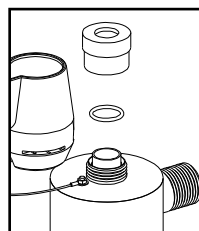
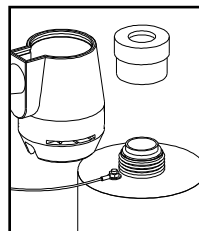

FIGURE 3C
FIGURE 3D
5. Clean the sleeve as outlined above, or replace with a new sleeve. Reinstall the quartz sleeve in the reverse order. The Cobalt reactor is designed for easy installation of the quartz sleeve by incorporating a unique sleeve centering guide. To install the sleeve, carefully insert the sleeve into the reactor chamber (do not drop) and push the sleeve until it firmly seats in the end of the reactor centered in the sleeve centring guides (Figure 3C). Install a lubricated (silicone release grease) o-ring (Part number OR-212) onto the sleeve until it is positioned against the chamfered seat (Figure 3D).